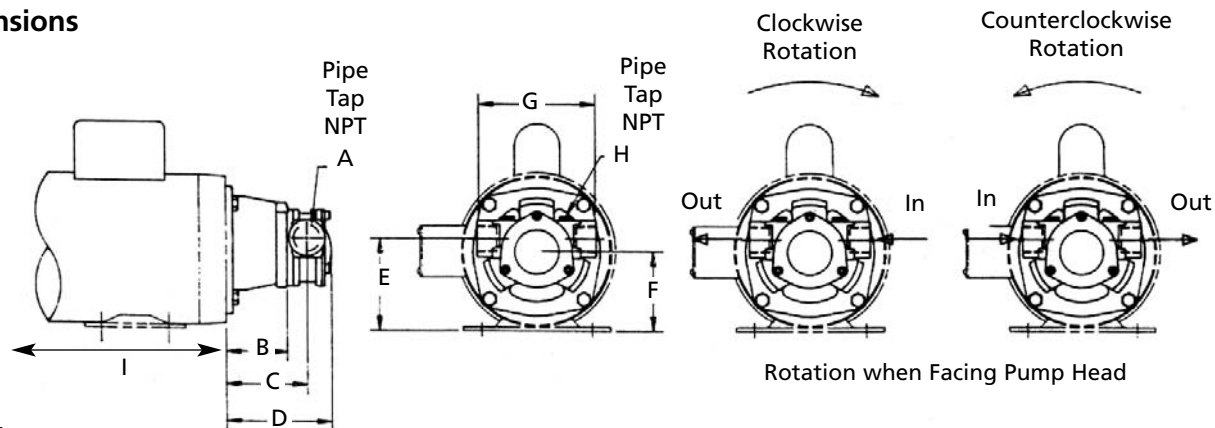

Figure 1
3. Attach suction line to suction inlet (See Figure 1 for proper rotation).
4. Recheck motor and pump rotation. Pump rotation is by-directional (See Figure 1).